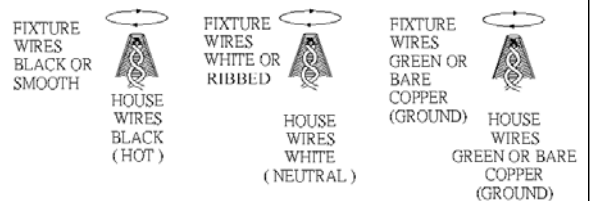

Fig.3
CONNECTING THE WIRES (FIG. 3)
17. At this point, connect the electrical wires as shown in Fig. 3 making sure that all wire connections are secured. If your outlet box has a ground wire (green or bare copper), connect the fixture's ground wire to it. Otherwise, connect the fixture's ground wire directly to the crossbar (P) using the green screw provided.
18. After the wires are connected, tuck them carefully into the ceiling outlet box. Raise the canopy (U) to the ceiling, then raise the lock collar (Y) and thread onto the ceiling loop (T) protruding through the canopy (U).